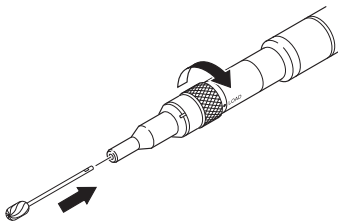

Figure 2. Cutting Accessory Installation
- 2.1. Rotate the lock collar to the LOAD position. See figure 2.